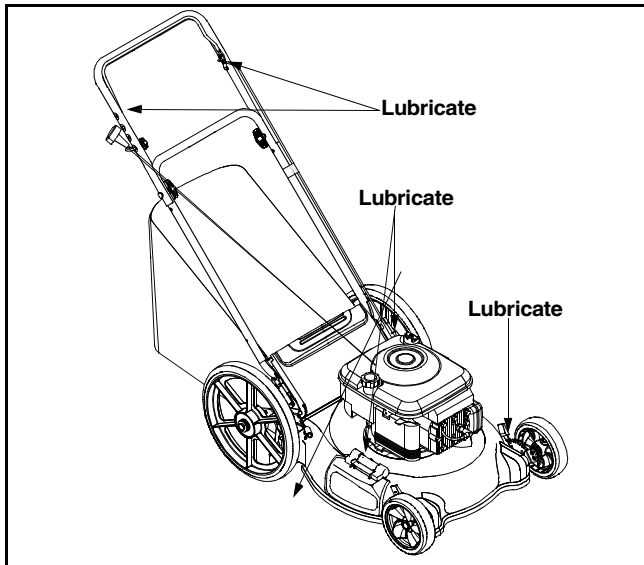

Figure 13
**Blade Control:** Lubricate the pivot points on the blade control handle and the brake cable at least once a season with light oil. The blade control must operate freely in both directions. See Figure 13.